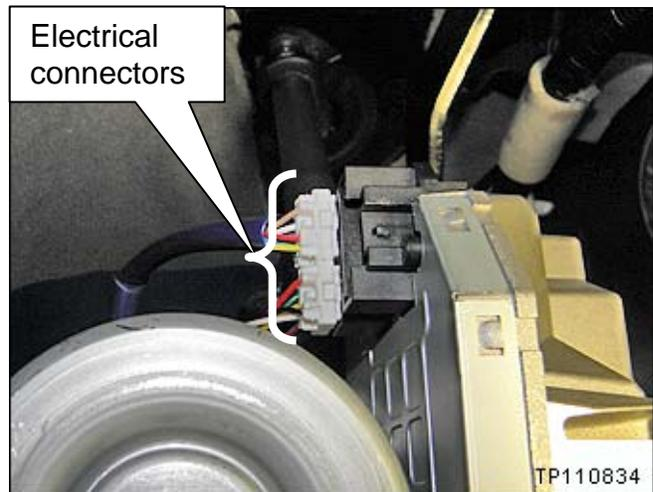

Figure 29
32. Disconnect the electrical connectors shown in Figure 29.